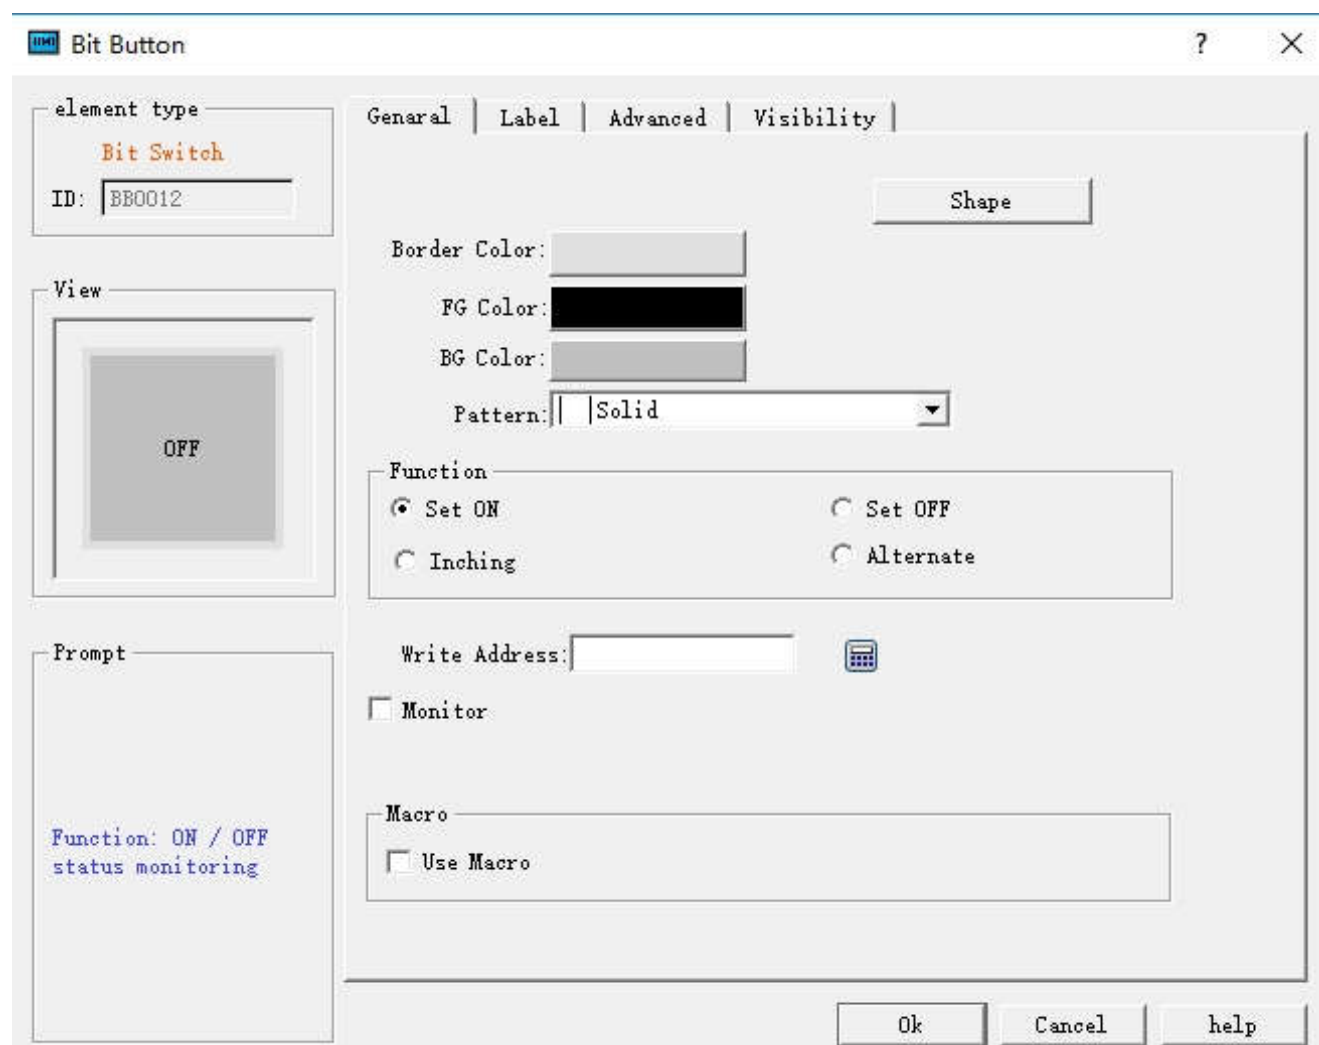

Figure 4-64 Bit Button dialog box
1. Click the Bit Button icon  on the toolbar to bring up a dialog box, which is for setting the properties of Bit Button, as shown in Figure 4-64: